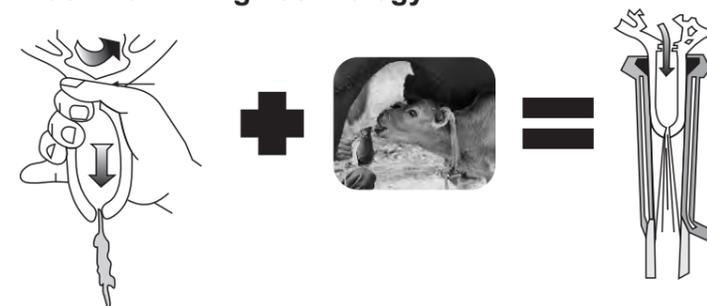

Figure 4.4: Machine milking provides the suckling effect of the calf and the massaging effect during hand milking.
- The milking machine effectively performs the function of applying vacuum pressure and suckling like a calf and also applying positive pressure and massaging like in hand milking as shown in figure 4.4.